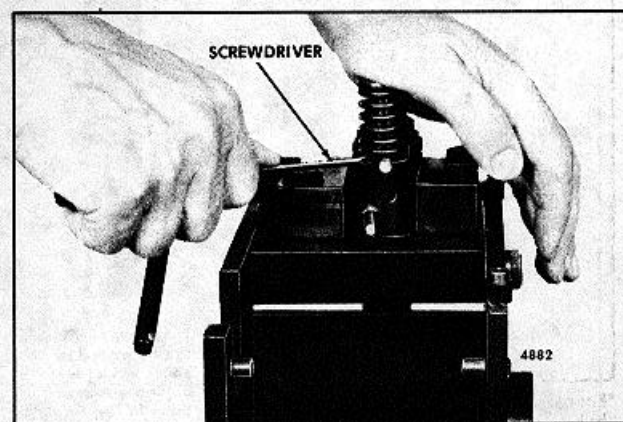

Fig. 9. Removing Injector Follower Stop Pin
2. Compress the follower spring. Then raise the spring above the stop pin with a screw driver and withdraw the pin (Fig. 9). Allow the spring to rise gradually.